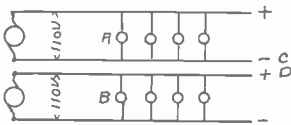

FIG. 1.
(E) Briefly, to step up to the principle of the three-wire system, let Fig. 1 represent two two-wire circuits, each operated by 110-volt dynamos. Assume lamps (A) and